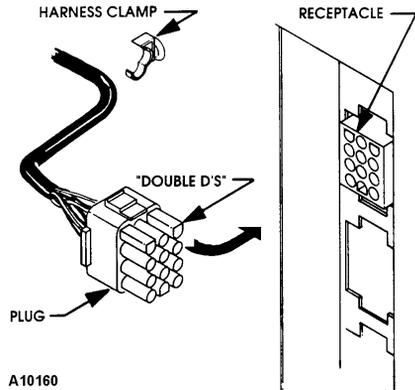

Figure 6. Tray Harness
2. Disengage the tray harness from its snap-open harness clamp on the right side wall. See **Figure 6**.
3. Disconnect the tray plug from its receptacle on the right-hand side wall. See **Figure 6**.
2. Locate the harness clamp on the right side wall. See **Figure 6**.